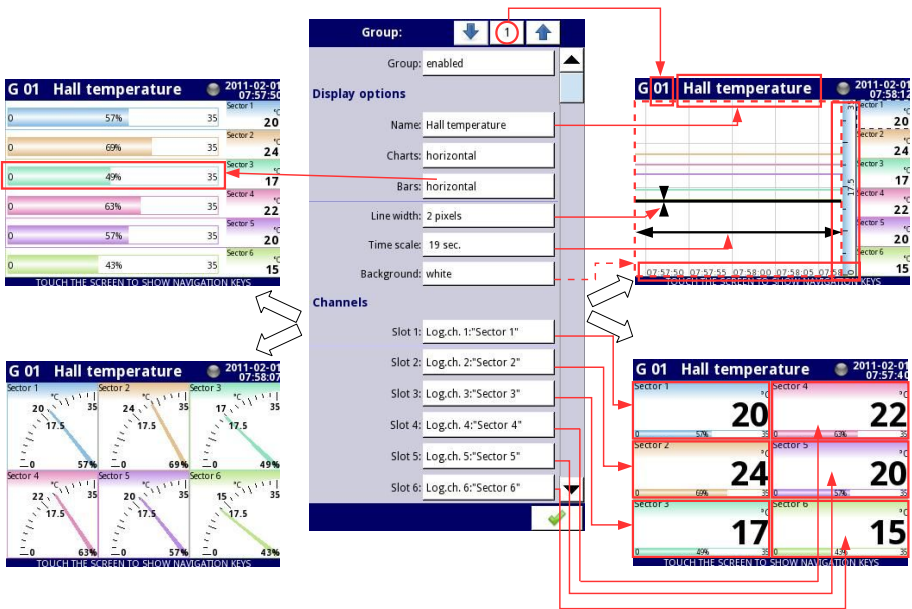
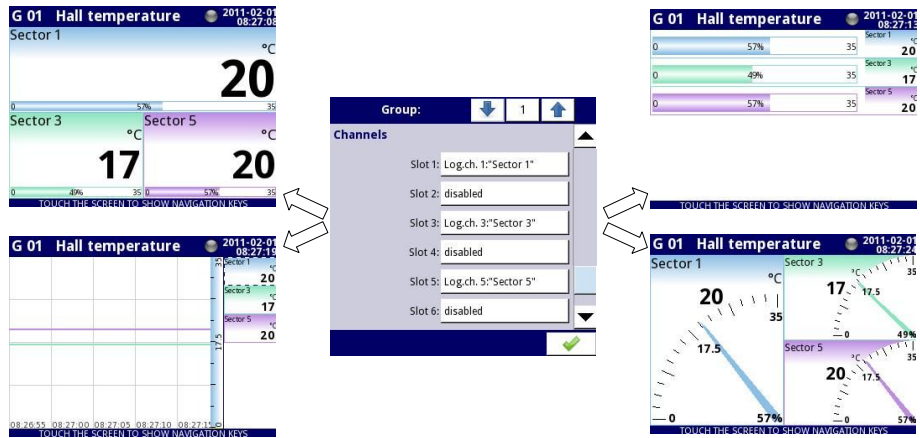

Fig. 7.124. Sample of **Group** parameters settings - all Slot set to **Logical channel**
Fig. 7.126. Sample of **Group** parameters settings - Slots set to **Logical channel** and set to **disabled**
- **Slot 1÷6** - in each slot the user can select an option (see Fig. 7.124÷Fig. 7.126):